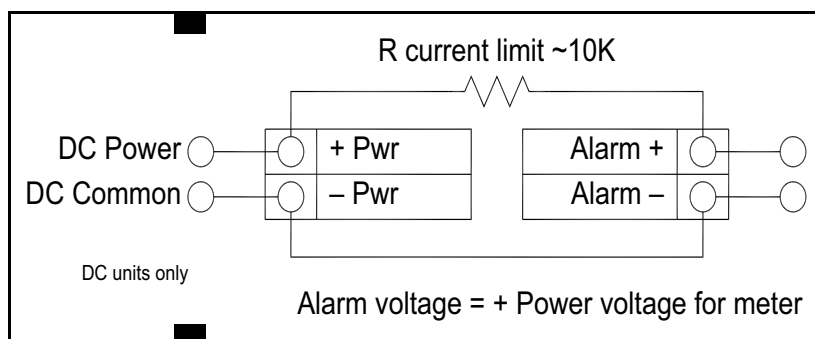

Figure 46: Non-Isolated Alarm Output Using Internal Power Supply
- For DC powered meters only, use the flow meter power supply (see Figure 46 on page 45). Use this option if the voltage at the flow meter power supply is an acceptable driver voltage for the connected load, taking into account that the current used by the alarm load comes from the meter’s power supply.